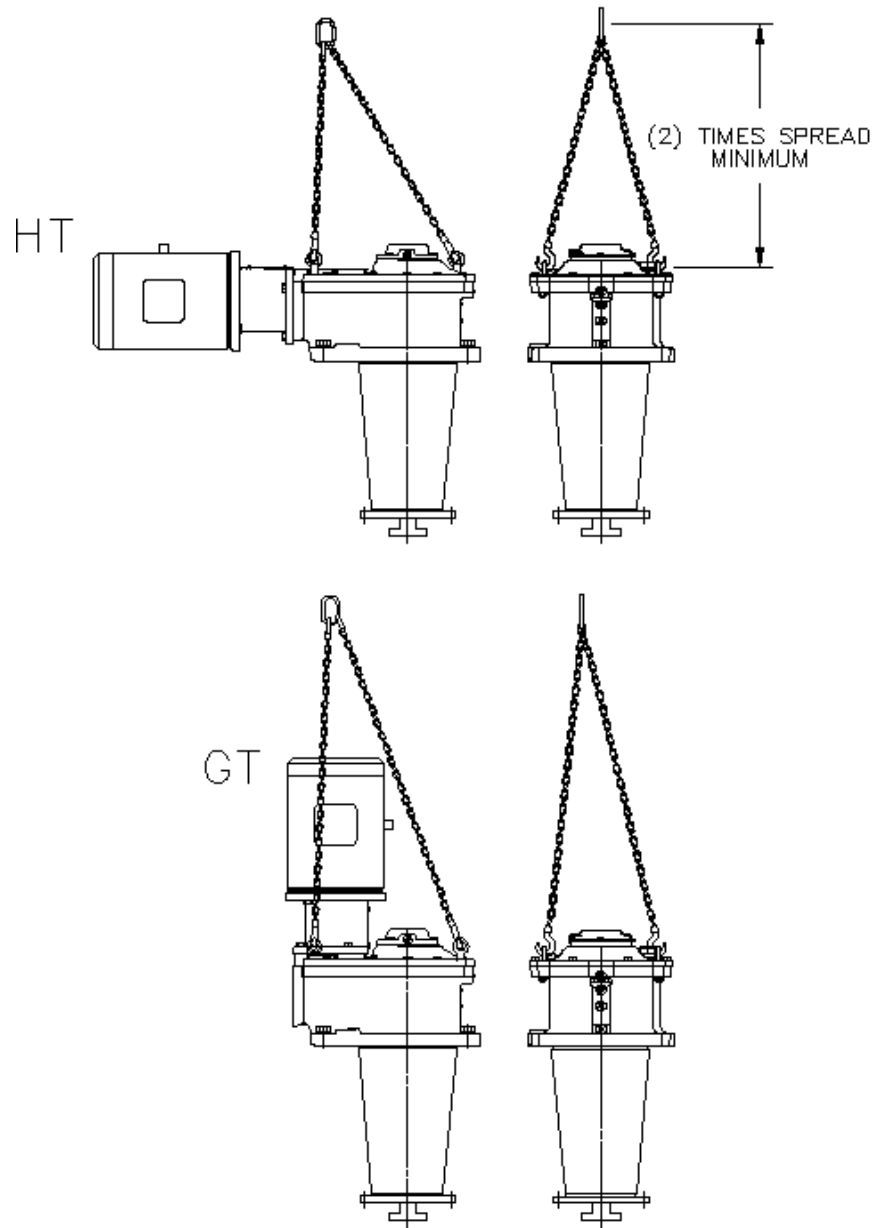

Figure 6. Agitator lifting system
2. Remove all shipping restraints. A hoist or crane system for the lifting of the agitator parts must be available. Refer to Figure 6, page 21 for lifting instructions. The approximate net weight of the unit is shown on the unit assembly drawing. Since gear drives are typically supplied with the motor un-mounted, always verify that the motor being mounted is correct for the gear drive by checking the assembly drawing.